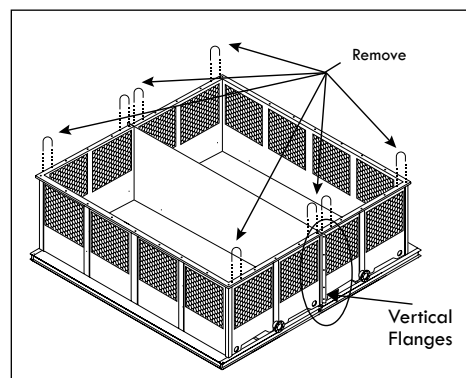

Figure A-27: Removing U-bolts from basin for a Four Fan Tower
- J. After the basin has been set in place, remove the U-bolts on top of each corner before installing the body section (see Figure A-27).